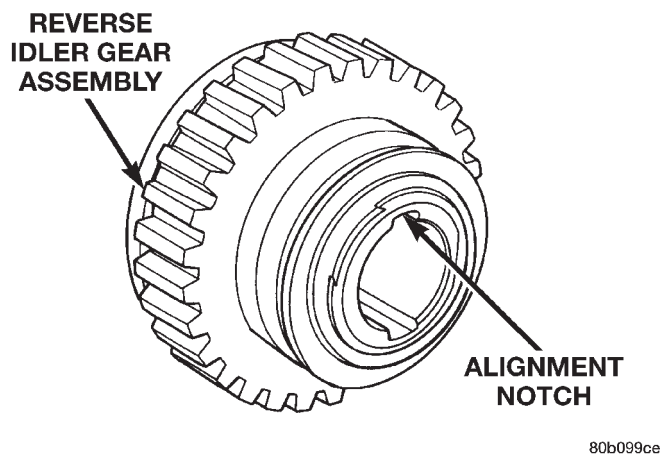

Fig. 91 Align Idler Shaft Pin
(34) Align the pin with the alignment notch in the reverse idler gear assembly (Fig. 91). The alignment notch in the reverse idler gear race/hub is a small